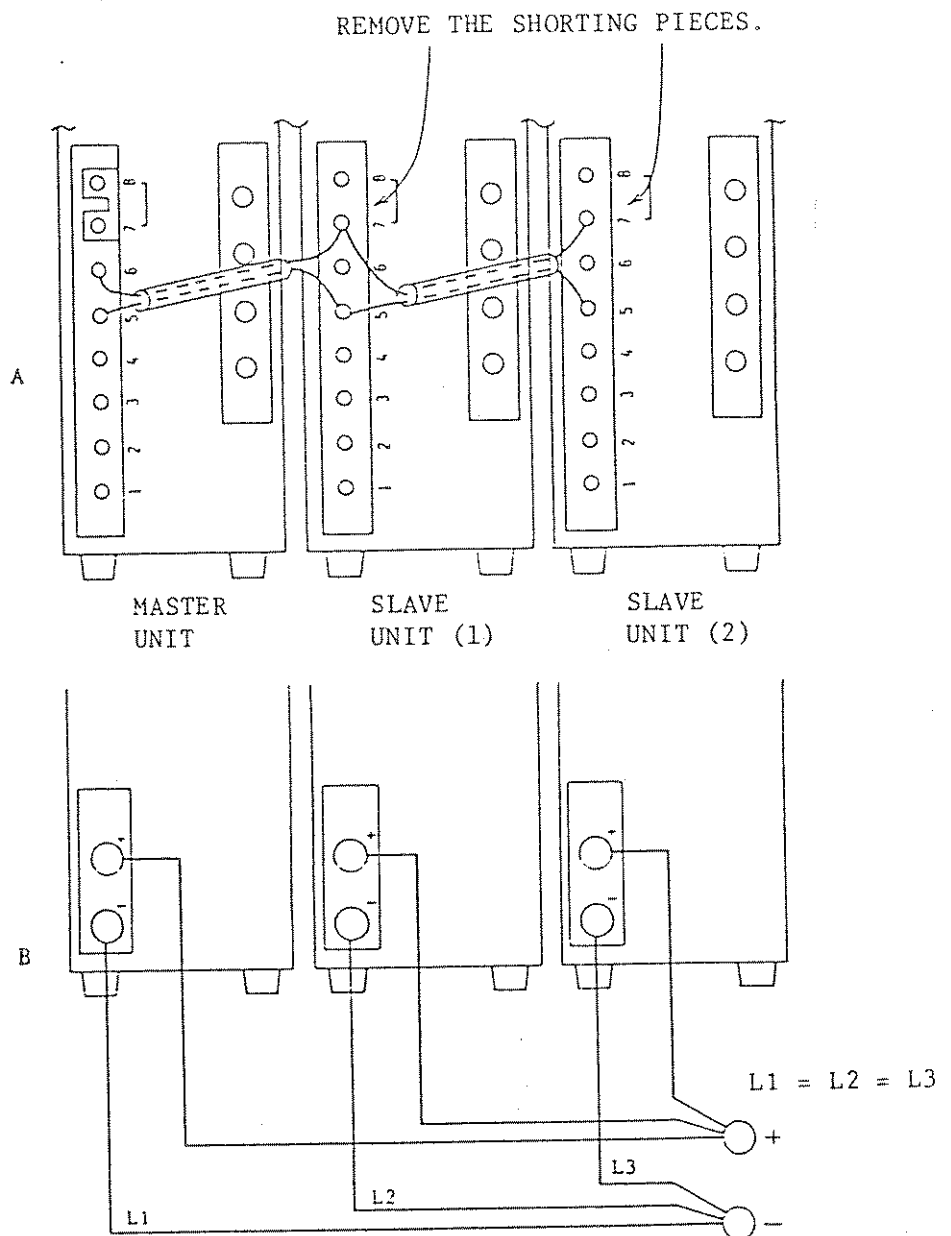

Figure 2-9-1
- o Two or more units can be connected in parallel to increase the loading current capacity and the operations of such units can be controlled by controlling only one of the units connected in parallel. (In a master/slave system with the selected one as the master unit and the others as slave units.) For the following explanation, refer to Figure 2-9-1.